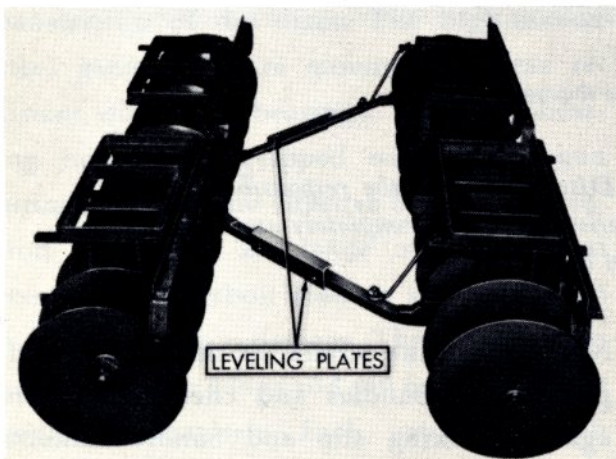

Figure 4
Step 2: Attach lower cross drawbars (with leveling plates) to front and rear gangs with pins and cotter pins. See Figure 4.